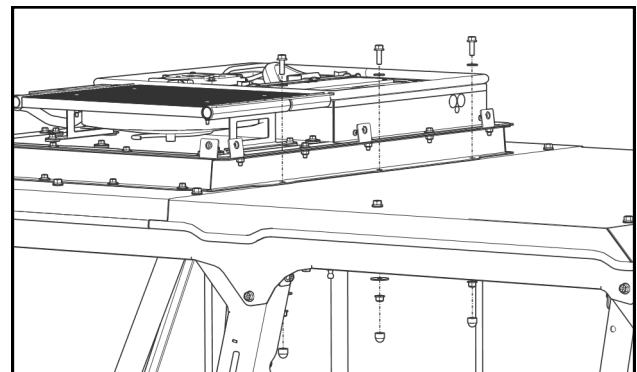

Fig. 5.2 (Roof Center Bolts)
- 5.3** Per Figure 5.2, for the three holes at the rear of the A/C assembly, use the separate 5/16" hardware kit from the A/C roof kit, including longer bolts, fender washers and nut covers. Check alignment of the roof and tighten all roof hardware.